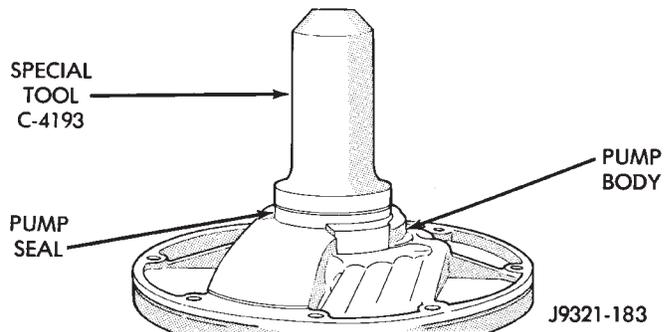

Fig. 175 Pump Oil Seal Installation
(12) Install new oil seal in pump with Special Tool C-4193 and Tool Handle C-4171 (Fig. 175). Be sure seal lip faces inward.
(13) Install new seal ring around pump housing. Be sure seal is properly seated in groove.
(14) Lubricate lip of pump oil seal and O-ring seal with transmission fluid.